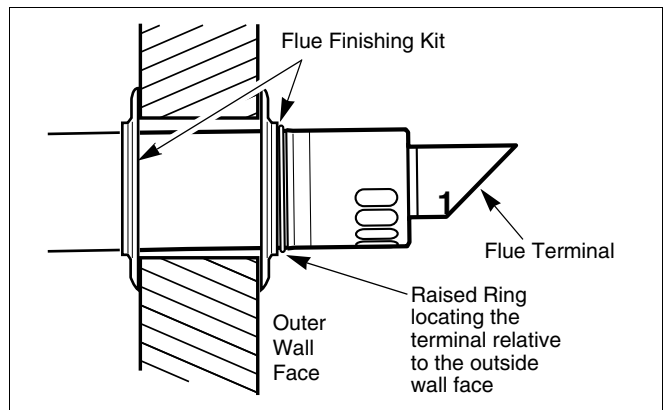

Fig. 21 Flue terminal position
- Mark off the lengths shown onto the ducts and cut the length. The cuts must be square and free from burrs. Terminal assembly outer (air) duct - L-70 mm, inner (flue) duct - L-50 mm. The measurement is made from the ridge at the terminal indicating the outer face of the wall. Refer to figure 21. Extension air duct - L-70 mm, flue duct - L-50 mm. The measurement is from the formed end.
- Assemble flue system completely. Push the ducts fully together. The slope of the terminal outlet must be face downwards (see fig. 21, item 1). The assembly will be made easier if a solvent free grease is lightly applied to the male end of the ducts.